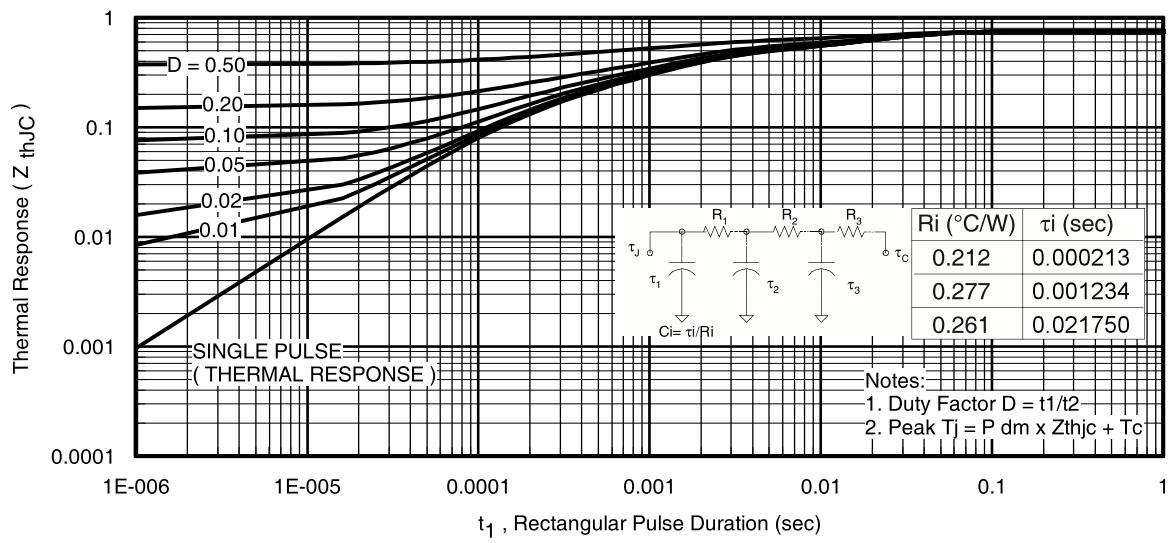
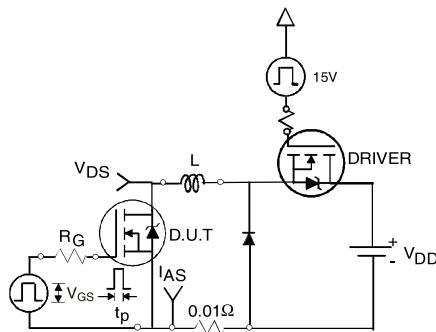

Fig 11. Maximum Effective Transient Thermal Impedance, Junction-to-Case
Fig 12a. Unclamped Inductive Test Circuit
- ① Repetitive rating; pulse width limited by max. junction temperature. (See fig. 11).
- ② Limited by $T_{J\text{max}}$, starting $T_J = 25^\circ\text{C}$, $L = 0.066\text{mH}$, $R_G = 25\Omega$, $I_{AS} = 75\text{A}$, $V_{\text{GS}} = 10\text{V}$. Part not recommended for use above this value.
- ③ Pulse width $\leq 1.0\text{ms}$; duty cycle $\leq 2\%$.
- ④ $C_{\text{oss eff.}}$ is a fixed capacitance that gives the same charging time as C_{oss} while V_{DS} is rising from 0 to 80% V_{DSS} .
- ⑤ Limited by $T_{J\text{max}}$, see Fig.12a, 12b, 15, 16 for typical repetitive avalanche performance.
- ⑥ This value determined from sample failure population. 100% tested to this value in production.
- ⑦ This is only applied to TO-220AB package.
- ⑧ When mounted on 1" square PCB (FR-4 or G-10 Material). For recommended footprint and soldering techniques refer to application note #AN-994.
- ⑨ TO-220 device will have an R_{th} value of $0.65^\circ\text{C}/\text{W}$.
3. Equation below based on circuit and waveforms shown in Figures 12a, 12b.
Z_{thJC}(D, t_{av}) = Transient thermal resistance, see figure 11)